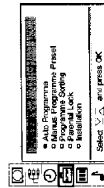

Fig. 3
- 1 Select the symbol  for «Preset» with $\Delta +$ or $\Delta -$ and press OK. The PRESET menu appears. (See Fig. 3.)